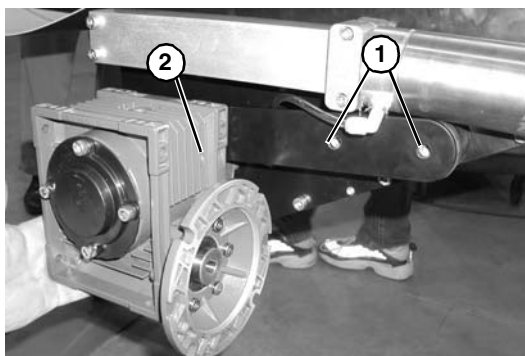
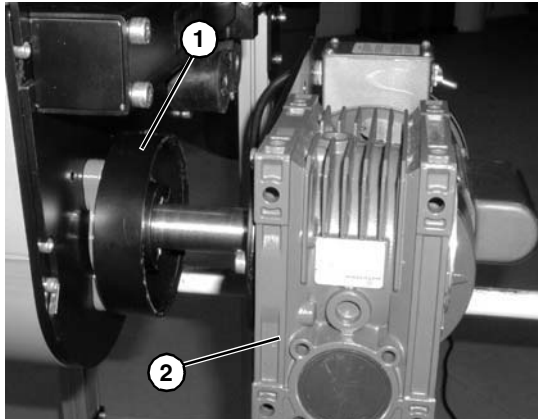

Figure 86
Figure 90
2. Remove screws (**Figure 86, item 1**) and remove gearmotor (**Figure 86, item 2**) (gearhead shown with motor removed for clarity, motor can remain attached to gearhead).
9. Reinstall spacer ring (**Figure 90, item 1**) and gearmotor (**Figure 90, item 2**). Tighten screws (**Figure 86, item 1**) to 150 in-lbs (17 N-m).